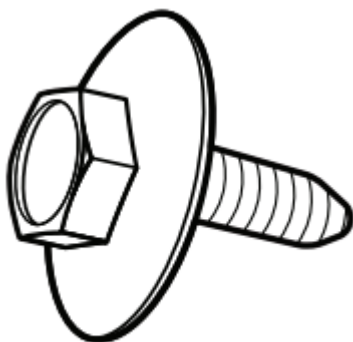

Figure: 3
■ Attachment 3: Align the rectangular hold in the side shield with the toe panel screw hole. Insert the Toe Panel Screw(see figure 3) and Loosely tighten it to hold it in place until the Toe Panel is installed.